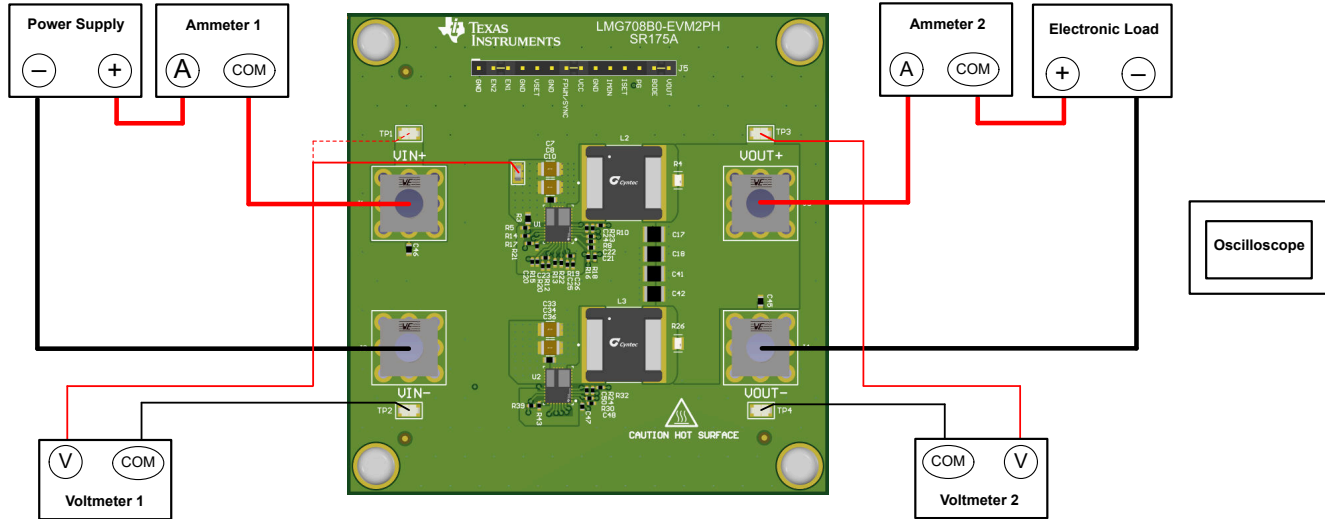

Figure 2-1. EVM Test Setup
Referencing the EVM connections described in Table 2-1 and Figure 2-1 show the recommended test setup to evaluate the LMG708B0-EVM2PH. Working at an ESD-protected workstation, verify that any wrist straps, boot straps, or mats are connected and referencing the user to earth ground before handling the EVM.
- Prior to connecting the DC input source, set the current limit of the input supply to 0.1A maximum. Make sure the input source is initially set to 0V and connected to the VIN+ and VIN– connection points as shown in Figure 2-1. TI recommends an additional input bulk capacitor to provide damping when using long input lines.